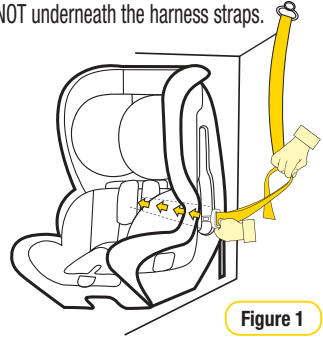

Figure 1
**Step 2:** Feed the adult seat belt through the belt path at the rear of the restraint. ENSURE THE SEAT BELT DOES NOT PASS UNDERNEATH THE HARNESS STRAPS AT THE BACK OF THE RESTRAINT (see Figure 1).